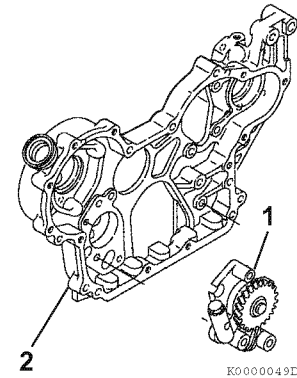

Figure 9-19
3. Reinstall the oil pump assembly (Figure 9-19, (1)) into the gear case housing (Figure 9-19, (2)). Tighten the bolts to specified torque.